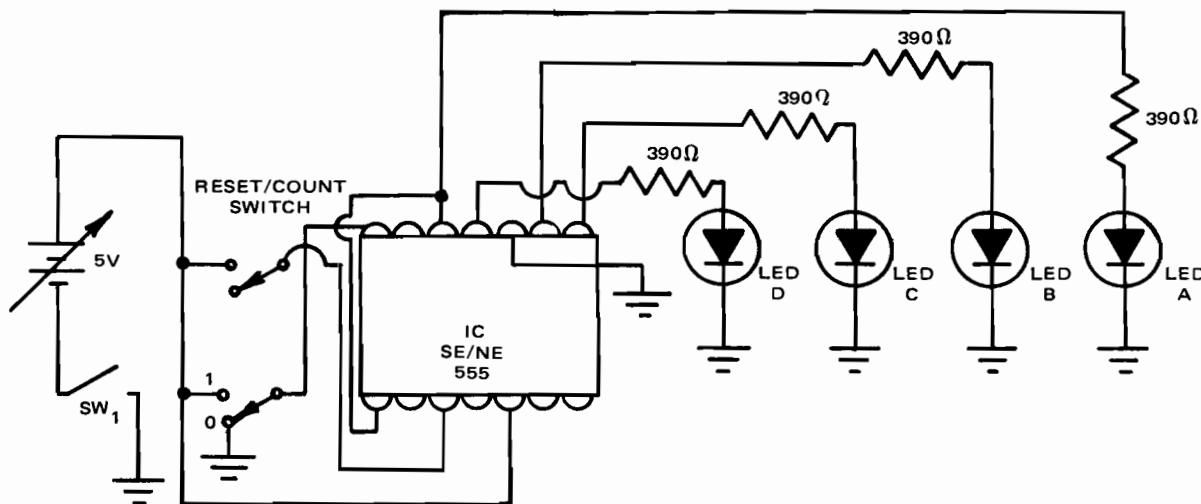

Fig. 17-6-1
1. Construct the binary counter like that which is shown in Fig. 17-6-1.